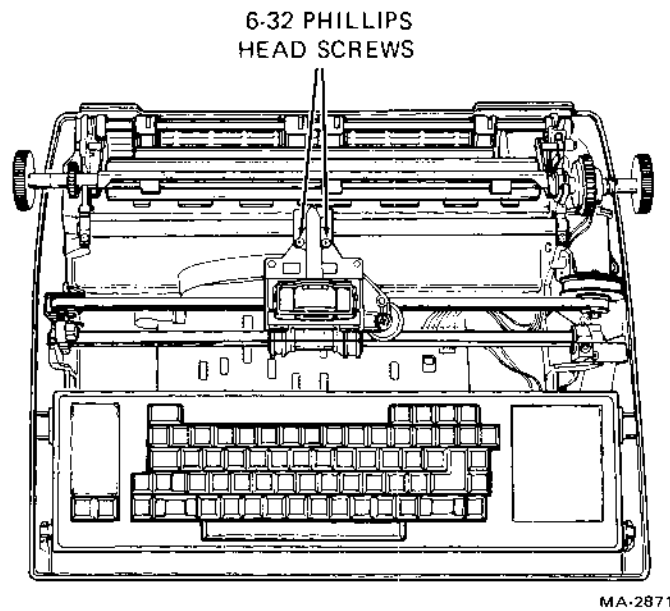

Figure 7-11 Printhead Removal
7. Remove the two (6-32) screws, spacers, flat washers and springs that secure the printhead to the carriage assembly (Figure 7-11).